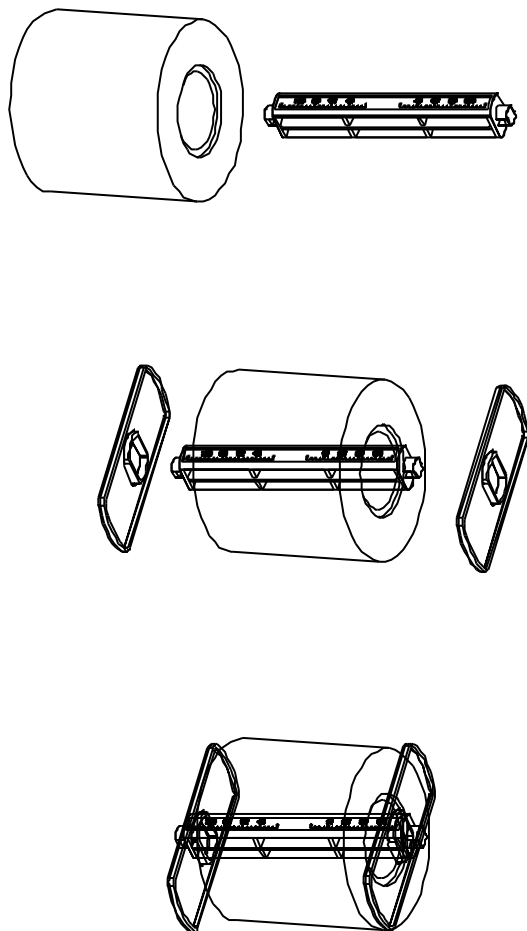

Figure 6-2
4. Next, insert the two Media Roll Guides, with their smooth sides facing inwards towards the Media Roll, on each side of the Roll on the Media Spindle. Push the two Media Roll Guides close to Media Roll (see Figure 6-2).